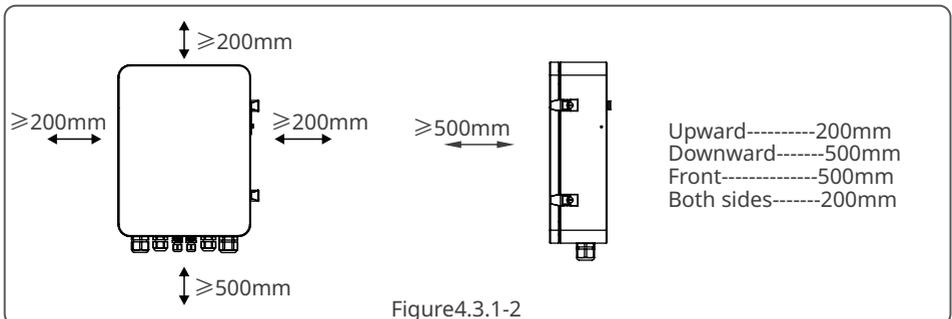

Figure 4.3.1-2
- To allow dissipation of heat, and for convenience of dismantling, clearances around the SEC1000S must be no less than the values, refer to figure 4.3.1-2.